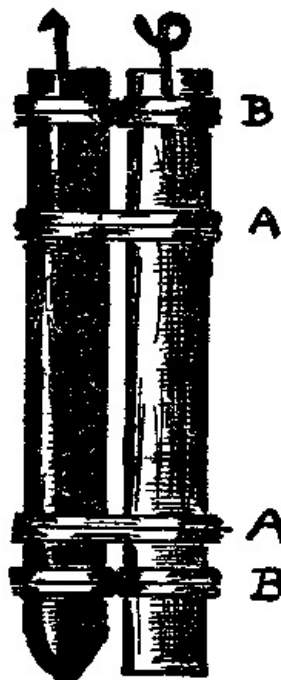

Fig. 1.
**1. Carbon-Zinc Cell.** Fig. 1. If you have some rubber bands you can quickly make a cell out of rods of zinc and carbon. The rods are kept apart by putting a band, *B*, around each end of both rods. The bare wires are pinched under the upper bands. The whole is then bound together by means of the bands, *A*, and placed in a tumbler of fluid, as given in App. 15. This method does not make first-class connections between the wire and rods. (See § 3.)